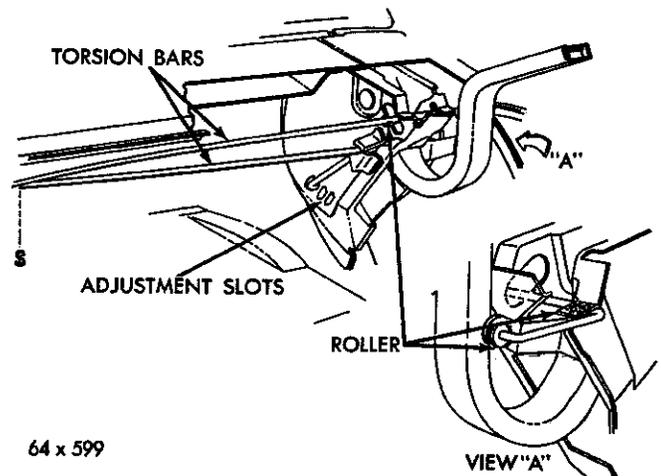

Fig. 51—Deck Lid Hinge (Imperial)
The weight of the lid is counterbalanced in all positions by the tension of two torsion bars (See Figure 51). The torsion bars are long, small diameter steel bars, that are free at one end and anchored to support the bracket at the other. A roller sleeve on the free end, operates against a "cam contour" on the back face of the hinge. As the deck lid is raised, the action of the rollers against the hinges cause the bars to twist, exerting a torsional resistance that balances the lid. To permit adjustment of the torsion bar tension, four slots are located in each support plate.
64. DECK LID HINGES (Fig. 51)